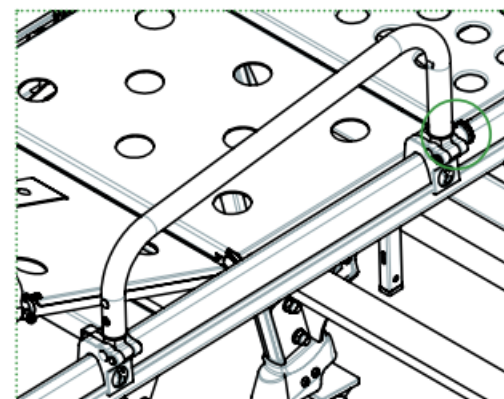

FIGURE 6
1. Use one hand to unlock the positioner (see figure 6)